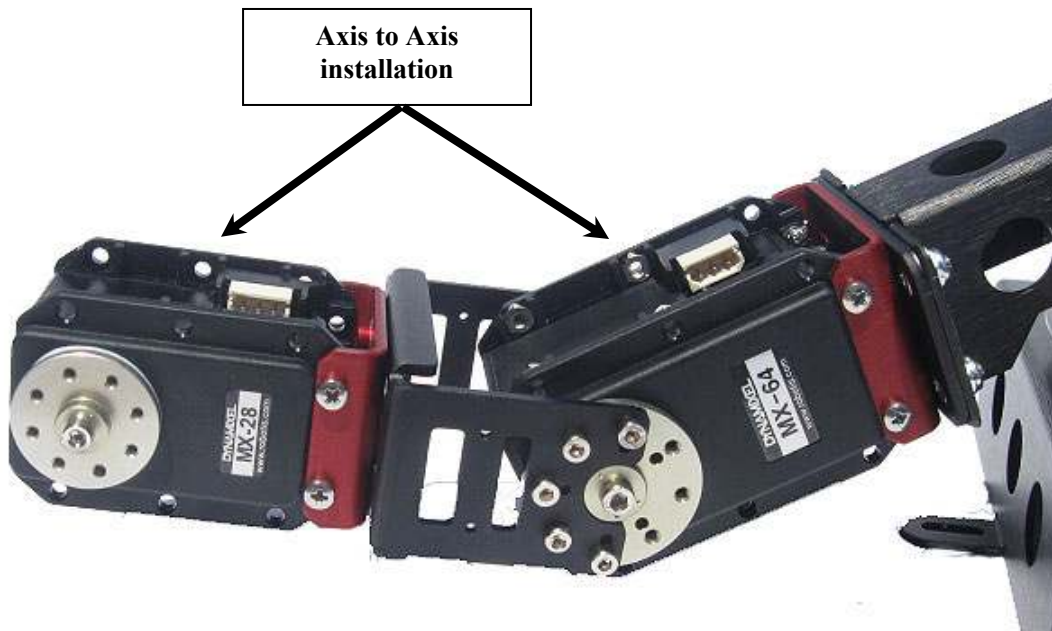

Figure 44
11. Using the servo horn screws, install the assembly from step 10 to the previous axis as shown in figure 44.